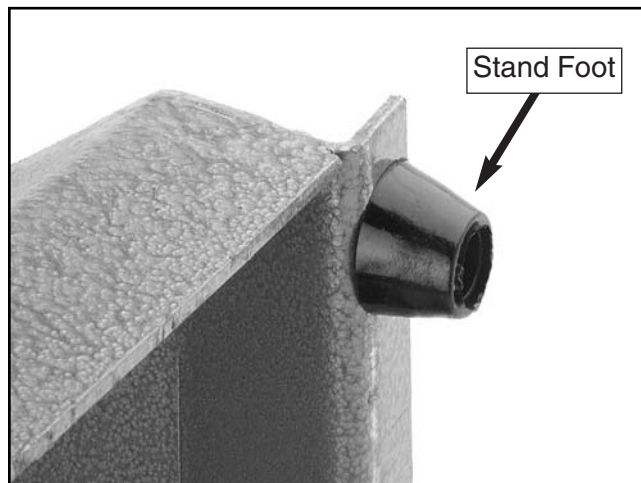

Figure 5. Stand foot threaded onto stand.
1. Thread the feet into the bottom of the stand as shown in **Figure 5**.